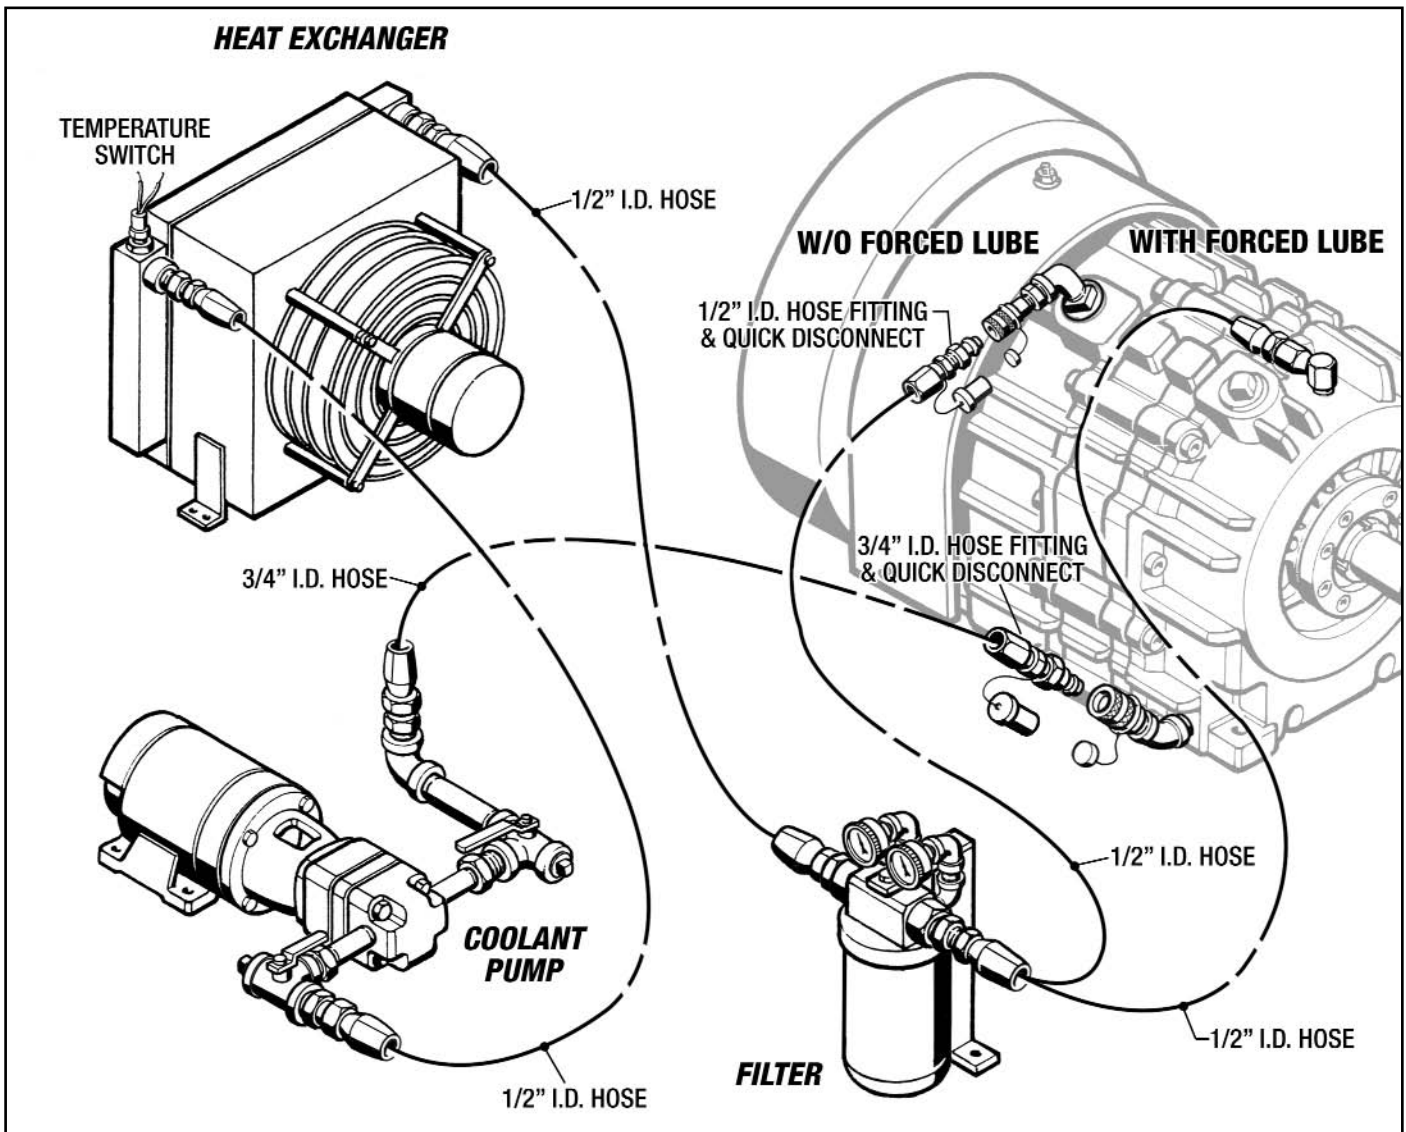

Figure 5 - Installing External Cooling System
(See Figure 5)
2. Remove any necessary pipe plugs. Cut hose lengths to suit and install as shown in Figure 5.
(See Figure 5 and 7)